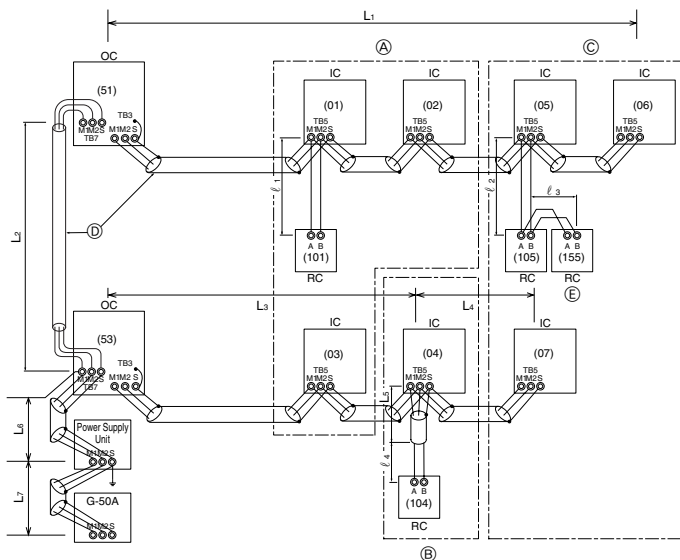

Fig. 6-2
- M-NET Remote Controller (Fig. 6-2)